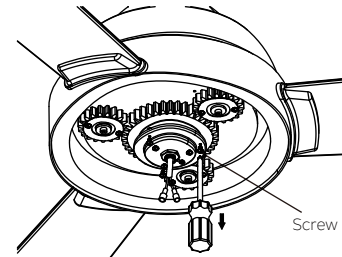

Fig. 21
**Step 1.** Remove three (3) screws as shown and save for later use. (Fig. 21)